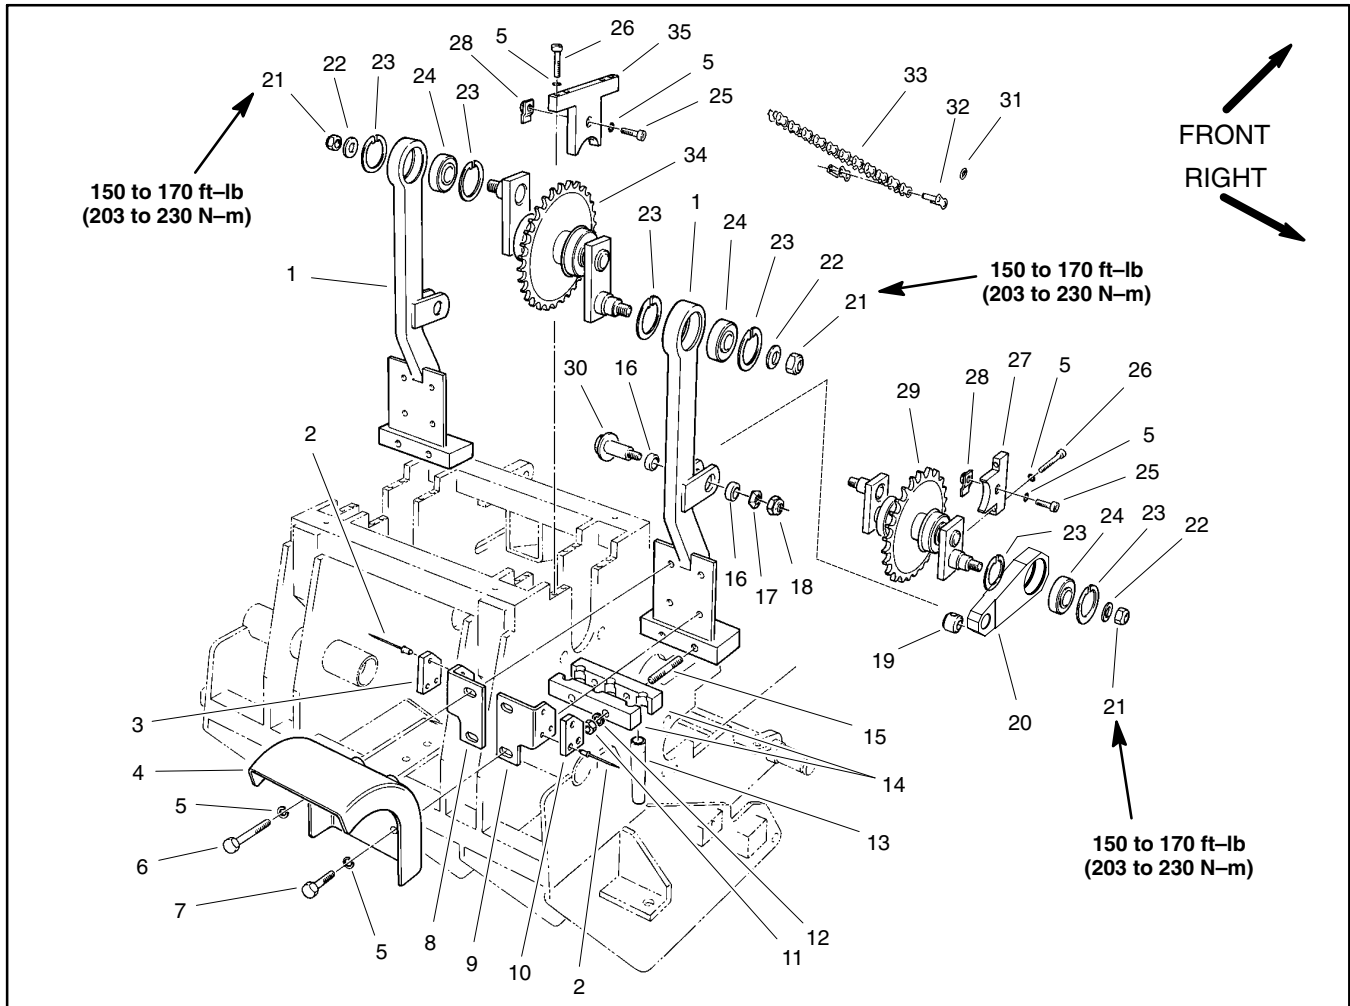

Figure 7
## Removal (Fig. 7)
5. Remove lock nut (item 21) and flat washer (item 22) that secure tine arm to upper crank arm (item 34).
6. Remove lock nut (item 21) and flat washer (item 22) that secure connecting rod to lower crank arm (item 29).
8. Dissassemble tine arm using Figure 7 as a guide.
## Installation (Fig. 7)
1. Assemble tine arm using Figures 7 and 8 as guides.
- A. If stud (item 14) was removed from tine arm, apply Loctite #271 (red) (or equivalent) to threads of stud before installing stud into tine arm.
- B. If connecting rod (item 20) was removed, install rod with the straight side down.
- C. When installing shoulder bolt (item 30), align the bolt head to the center of coring head.
3. Install flat washer (item 22) and lock nut (item 21) to crank arms to retain tine arm and connecting rod. Torque lock nuts from 150 to 170 ft-lb (203 to 230 N-m).